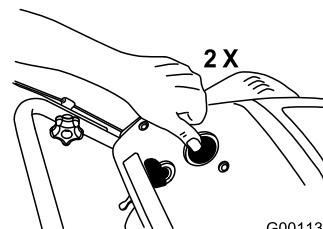

Figure 16
3. Firmly push in the primer 2 times with your thumb, holding the primer in for a second before releasing it each time (Figure 16).